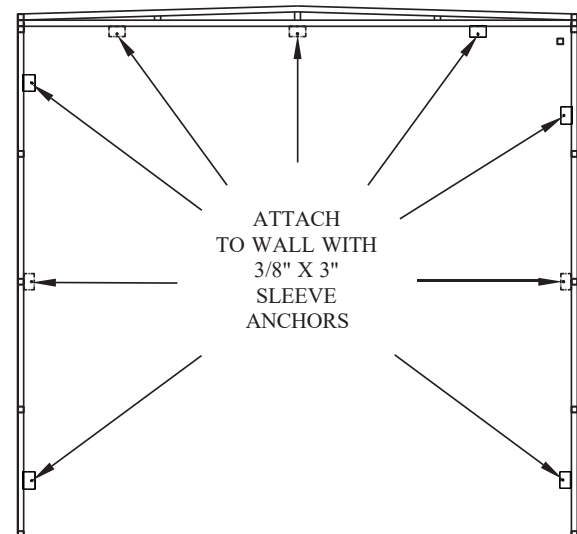

FIG 15
a. Make sure entire shelter is plumb, level, and square (Figure 15).